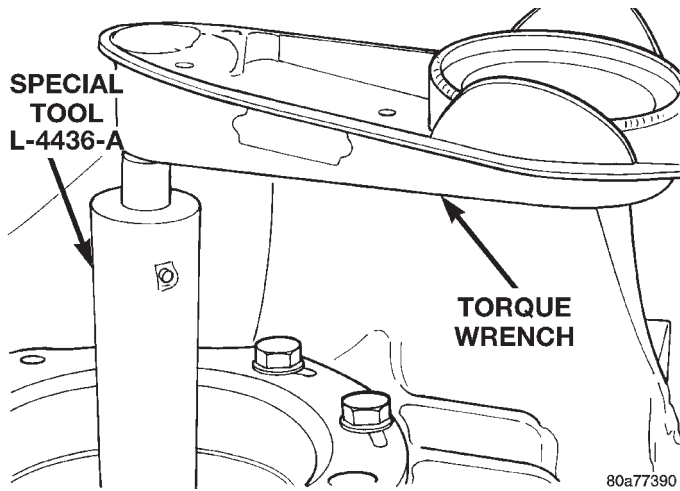

Fig. 316 Checking Differential Bearings Turning Torque
(3) Rotate the differential at least one full revolution to ensure the tapered roller bearings are fully seated.
(4) Using Tool L-4436A and an inch-pound torque wrench, check the turning torque of the differential (Fig. 316). **The turning torque should be between 5 and 18 inch-pounds.**
(5) If the turning torque is within specifications, remove tools. Setup is complete.
(6) If turning torque is not within specifications proceed with the following steps.
(7) Using Tool L-4436A and an inch-pound torque wrench, recheck the turning torque of the differential (Fig. 316). **The turning torque should be between 5 and 18 inch-pounds.**
(9) Using the end play measurement that was determined, add .18mm (.007 inch). This should give you between 5 and 18 inch pounds of bearing preload. Refer to the Differential Bearing Shim Chart to determine which shim to use.
(10) Remove the differential bearing retainer. Remove the bearing cup.
(11) Install the oil baffle. Install the proper shim combination under the bearing cup.
(12) Install the differential bearing retainer. Seal the retainer to the housing with Mopar® Silicone Rubber Adhesive Sealant. Torque bolts to 28 N·m (250 in. lbs.).
(13) Using Miller Special Tool L-4436-A and an inch-pound torque wrench, check the turning torque of the differential (Fig. 316). The turning torque should be between 5-18 inch-pounds.